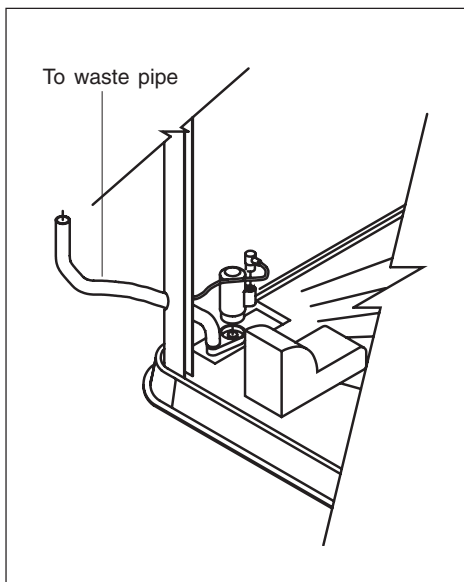

Fig 4.10
11. Fig 4.10 Push outlet (waste) hose through the hole in the corner post (1) and secure it to the stack pipe moulded in the base. Do not stretch the waste pipe, allow for possible adjustment. Connect the pump unit to the electrical connector, ensuring a firm fit. Push the motor housing into the base socket until the face of the pump and socket meet. Prior to fitting the pump cover (10) ensure that the electrical cable and waste pipe are clear of obstructions.